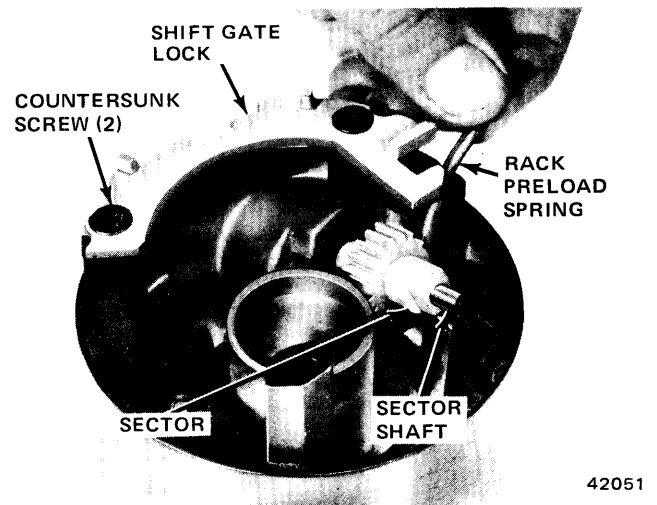

Fig. 11-27 Housing Components
(26) Remove lock bolt and lock rack and remove rack preload spring (fig. 11-27).
(7) Align shift bowl with shift tube spline and install bowl.
(8) Install rack preload spring in upper housing (fig. 11-27).